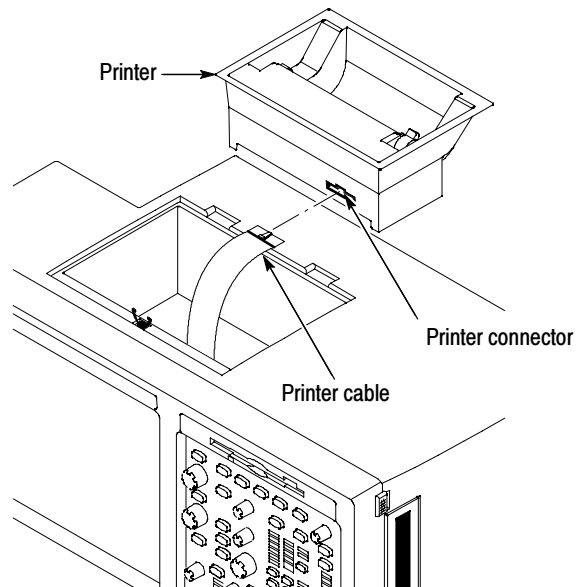

Figure 4: Connect the printer cable to the printer
1. Plug the cable into the printer connector as shown in Figure 4.